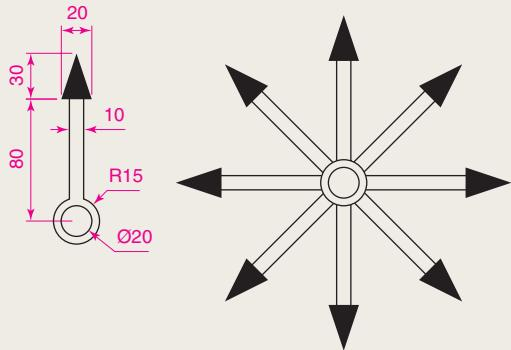

Fig. 5.51 Exercise 5
5. Construct the arrow in Fig. 5.51. Array the arrow around the centre of its circle 8 times to produce the right-hand drawing of Fig. 5.51.